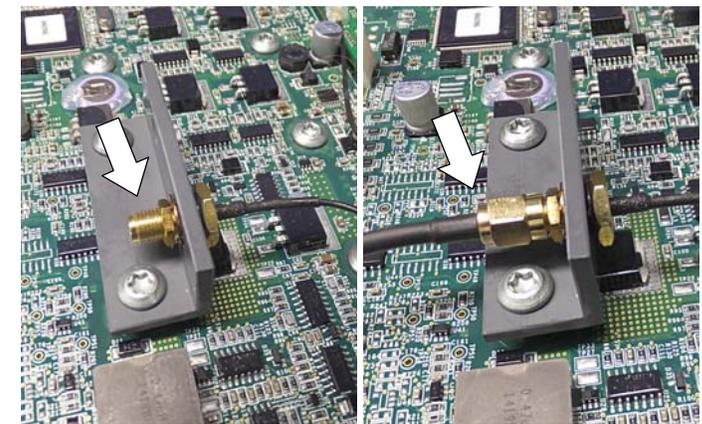

Fig. 10
6. Connect the new circuit board's antenna wire to the antenna bracket as shown (Figure 10). Then connect the antenna wire to circuit board wire as shown.